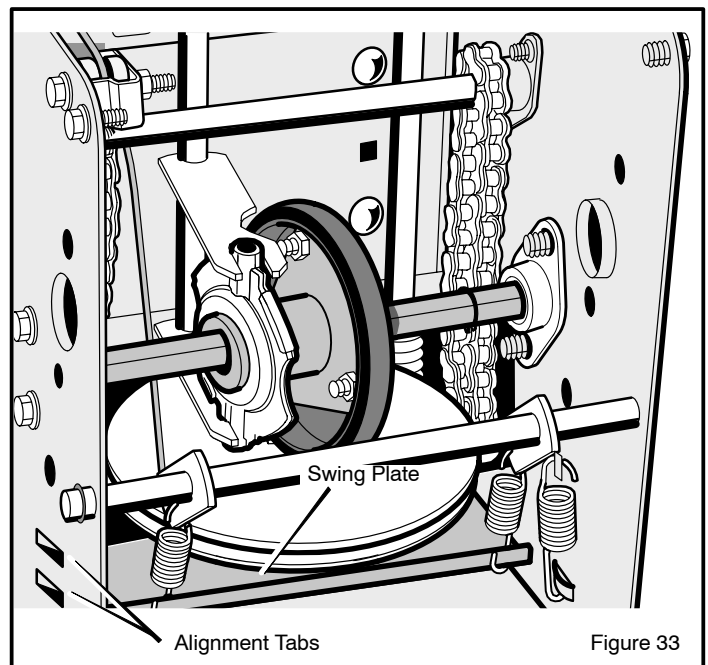

Figure 33
10. The bottom of the **swing plate** must be positioned between the **alignment tabs**. Make sure the **swing plate** is properly secured (see Figure 33).